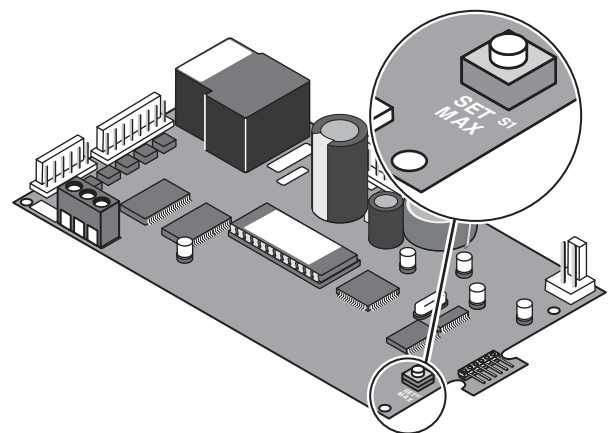

Figure 34.
3. Push the **Max. Temp. Set Point** button on the back of the control board (see Figure 34).